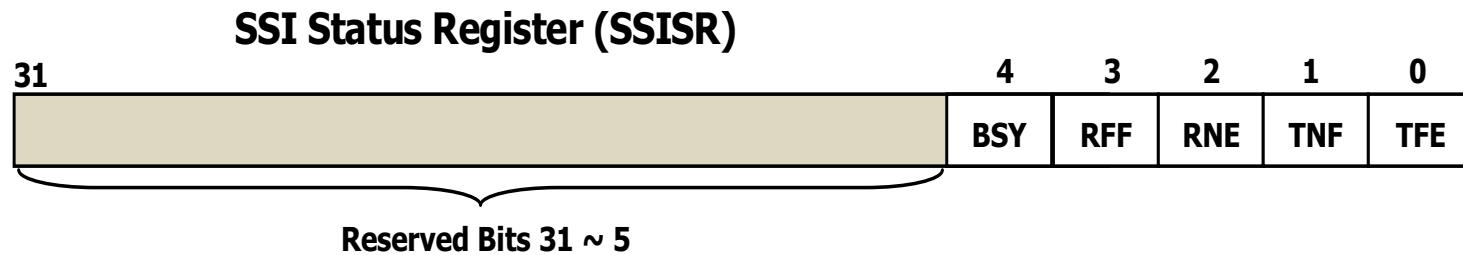

Figure 8.13 The bit field and functions of the SSISR Register.
- Figure 8.13 shows the bit field and functions of this register.